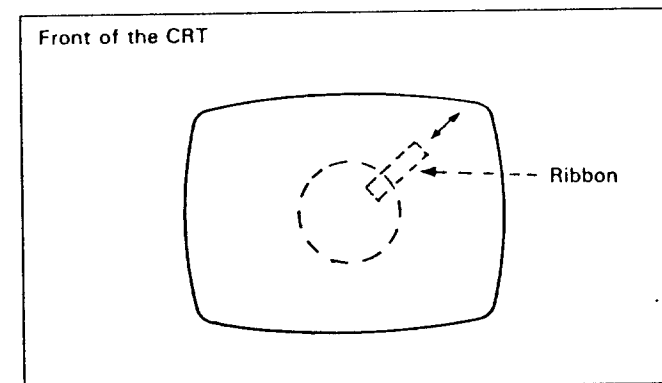

Fig. 9
2. Maintaining that position, adjust the depth for inserting the ribbon and correcting the quantity of convergence in order. (Fig. 9)